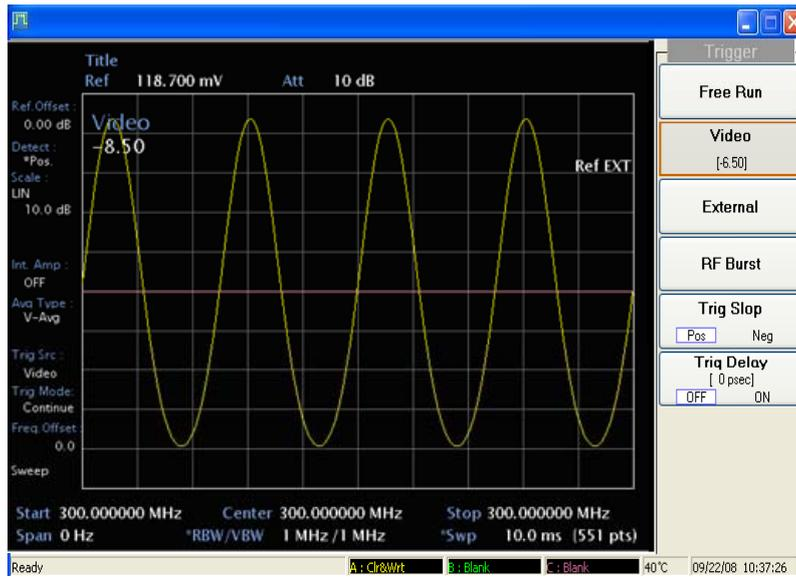

Fig. A-24 Measuring modulation in zero span
- 9 Adjust the sweep time to change the horizontal scale by pressing [BW], [Sweep Time] 10 ms. See Fig. A-24.